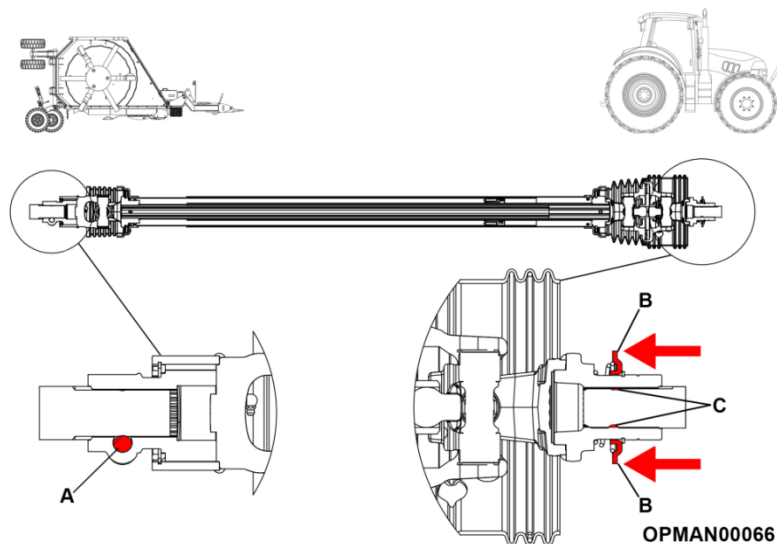

Figure 4.11 – Army Master Input Shaft Fitting & Removal
- 4.5.1.1 Proceed to remove the taper pin, flat washer and nut from the machine end of the input PTO shaft. See Figure 4.11.
- 4.5.1.2 Install the input PTO shaft onto the splitter gearbox lining up the slot in the splitter gearbox shaft with where the input shaft taper pin will be placed; see Figure 4.11 (A). Replace the removed taper pin, flat washer and nut and tighten to a torque of 230Nm (170 ft/lbs).
- 4.5.1.3 Pull the input shaft yoke collar back and align the grooves and splines with those of the PTO output shaft of the tractor; see Figure 4.11 (B).
- 4.5.1.4 Push the driveline yoke onto the tractor output PTO shaft, release the locking collar and position the yoke of the input shaft until the locking collar balls are seated onto the tractors output PTO shaft; see Figure 4.11 (C).
- 4.5.1.6 Pull the input shaft yoke collar back and pull back the shaft off the output splined shaft of the tractor; see Figure 4.11 (B).